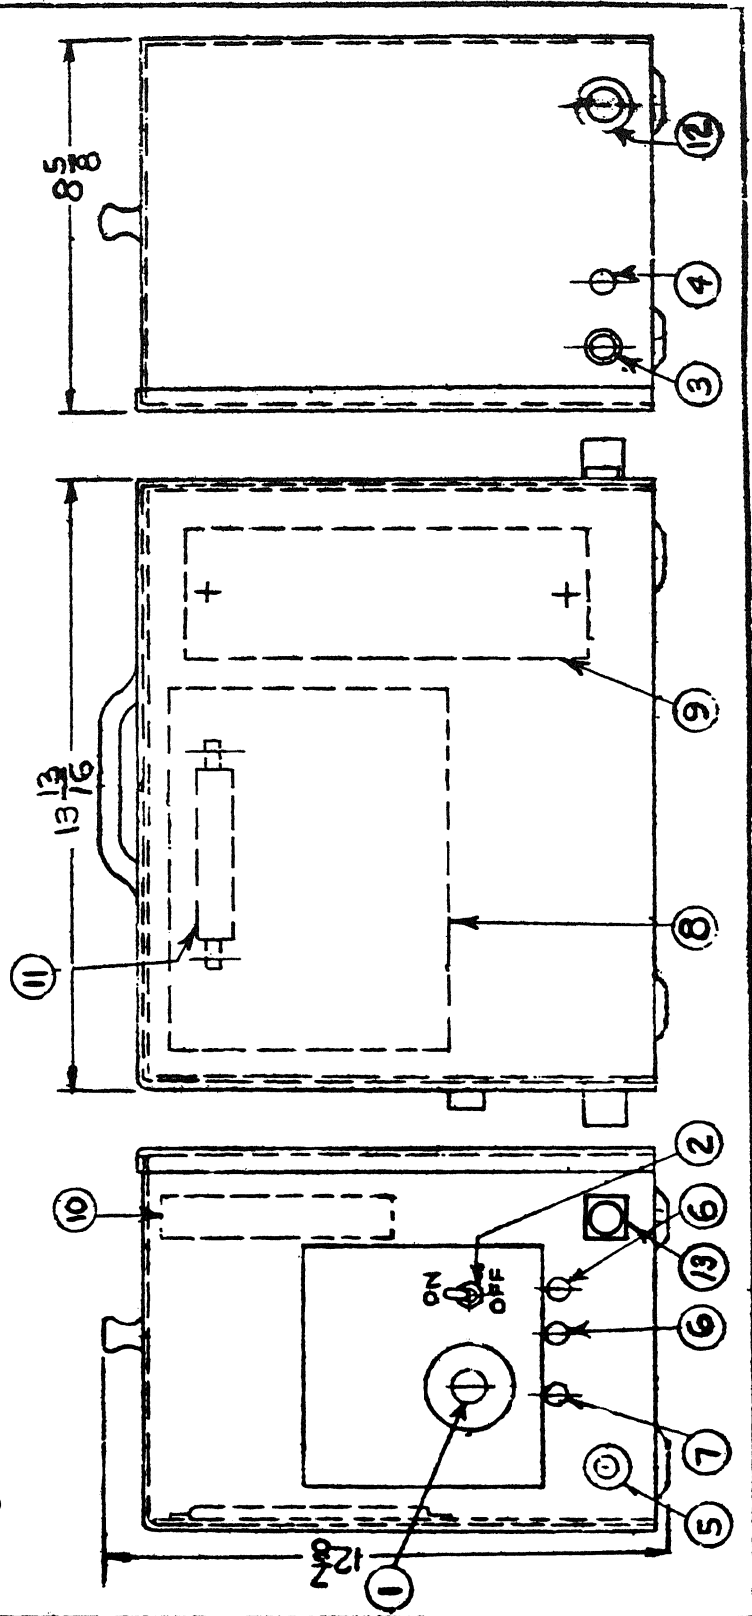

Figure 1. AC-DC Control Monitor Outline.
Place a spool of welding wire on the spool shaft (23) so the free end will pay-off from the top into the rear nylon bushing (4). Loosen the wire pressure thumb screw (18) and open the swing arm (15). Push the free end of the wire through the rear nylon bushing (4), through the front nylon bushing (3), and into the guide tube (5). With the welding set connected according to the "Connection" instruction above and the line cord connected to a 115 V AC or DC supply, turn the system on by throwing the "ON-OFF" switch (2 of Figure 1).